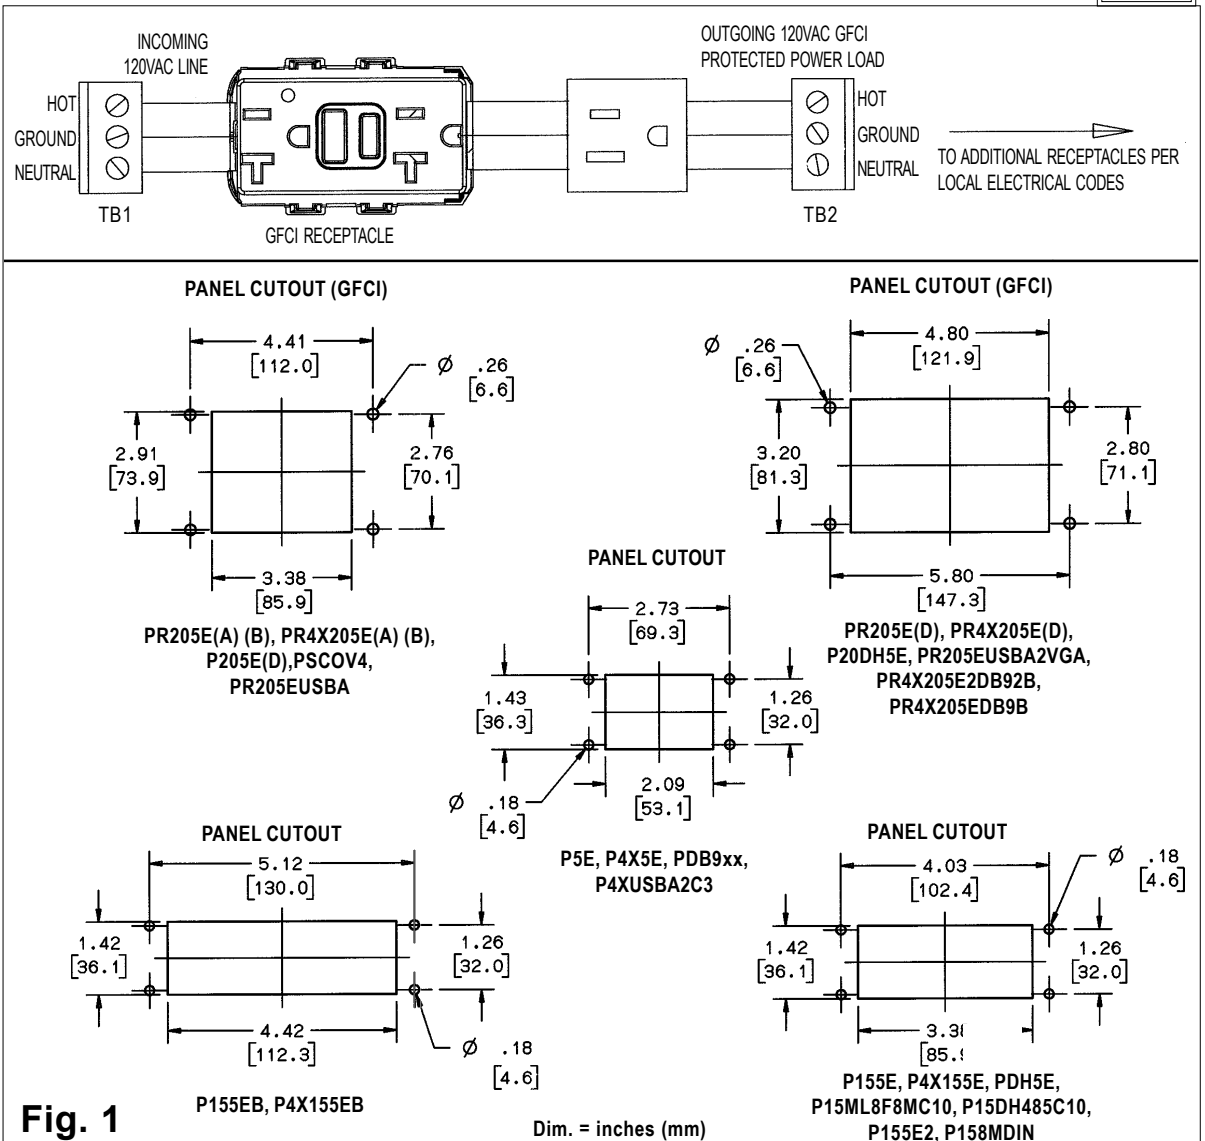

Fig. 1
- Cut an opening in the panel using the dimensions from the appropriate chart shown in Figure 1.
- On units with optional AC power receptacles: Connect input power to LINE terminals (TB1) per NEC as shown in figure 1. Additional receptacles may be connected per NEC to the LOAD terminals (TB2). Insure adequate separation of high and low voltage circuit conductors in the end-use product.